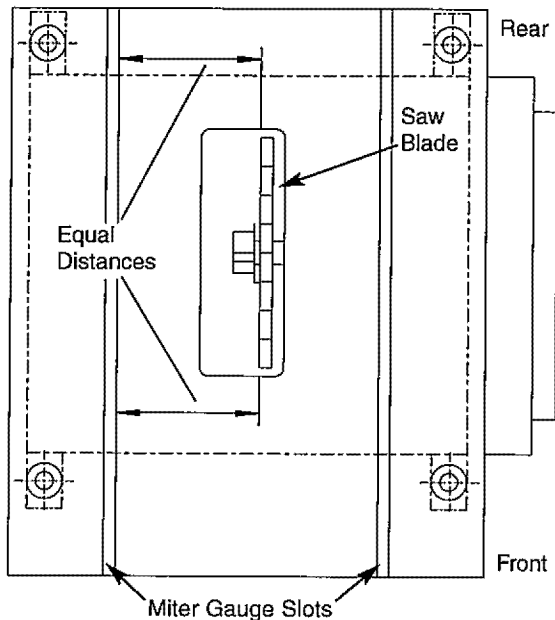

Figure 3 - Aligning Miter Slots to Blade
Refer to Figures 3, 4, 5, 7, 8, 9 and 10.
Refer to Figures 3 and 13, pages 7 and 26.
- Gauge this tooth with the dowel rod. If the tooth is in the same position, relative to the miter gauge, the table is parallel with the blade. In short, the miter gauge slots must be parallel with the blade. This means that when measuring distance between blade and slot at the front and rear of the blade, the distances will be equal (see Figure 3).